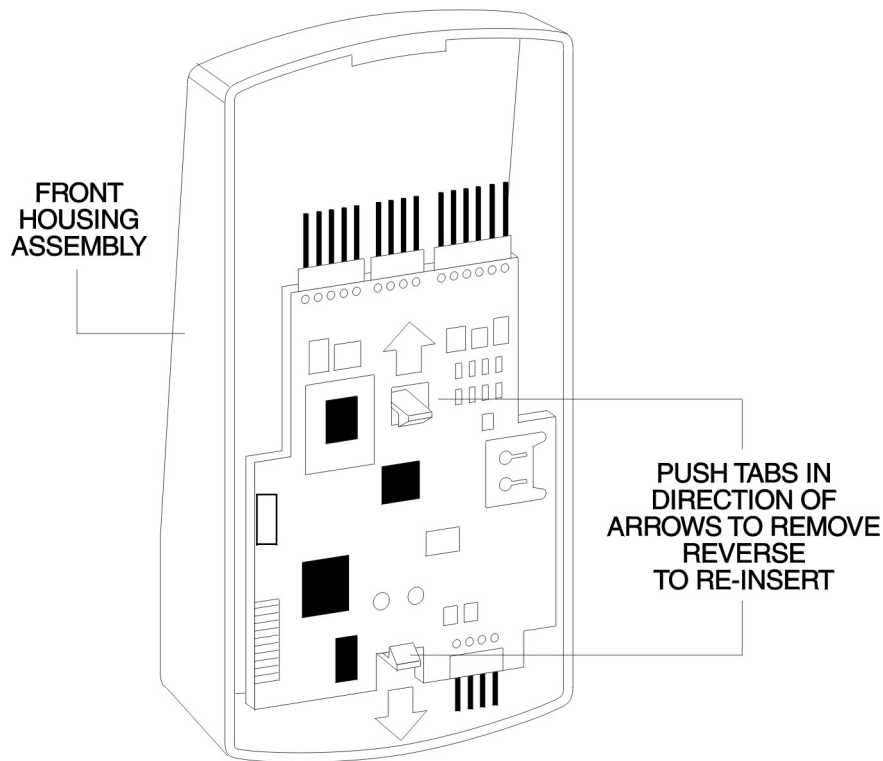

Figure 7: Removing/Inserting Printed Circuit Board
2. **(When handling the main printed circuit board, to guard against possible static discharges, hold the board by its edges with one hand and then touch a grounded object before touching the prox.pad unit.)** Remove the main printed circuit board by pressing the two spring tabs in the direction of the arrows as shown in Figure 7. Be careful with the wires.